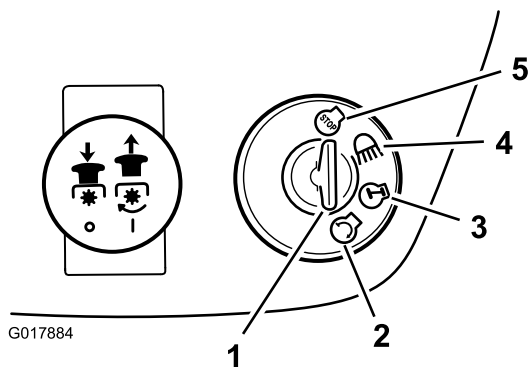

Figure 10
6. Turn the ignition key clockwise and hold it in the Start position (Figure 10).
- Turn the ignition key to the Off position (Figure 10).